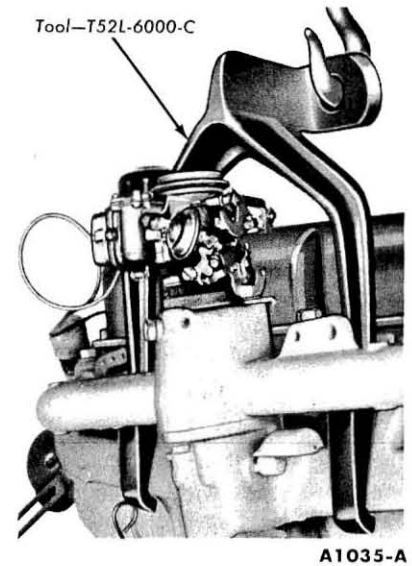

FIG. 8—Engine Lifting Hook
21. Attach the engine lifting hook (Fig. 8).